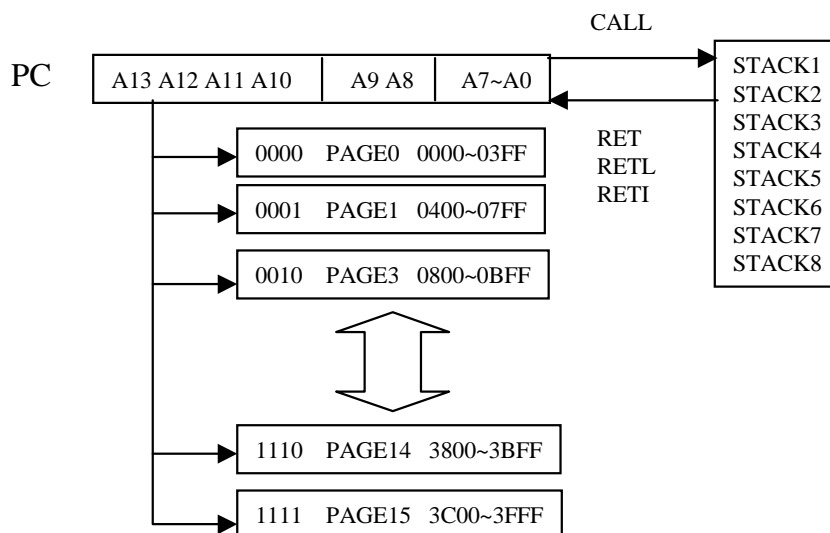

Fig.4 Program counter organization
* The structure is depicted in Fig.4.